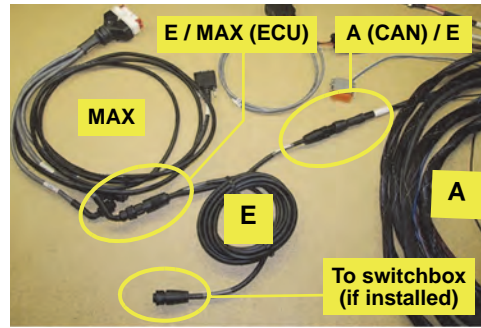

Figure 6c: Splitter cable connections
- d. Using the splitter ('Y') cable **E** (but see note following), tie into the existing CAN connection. For example, connect **E** between the 7-pin CAN connector labeled "**ECU**" on the **MAX** cable (with the white main connector) and the 7-pin CAN connector on interface cable **A** (Figure 6c).
You can use splitter cable E as an extension cable between cable A and the CAN connection "ECU" on the (white connector) MAX cable. You can also use cable E to connect the switchbox if installed (Figure 6c).